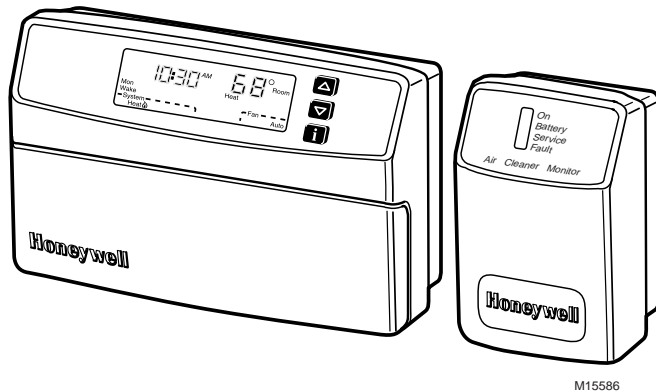

Fig. 13. Complete T8600/W8600F Installation.
9. Push the W8600F reset button. All four indicators on the display will flash 5 times. The ON indicator will stay active as long as the EAC is on. See Fig. 13.